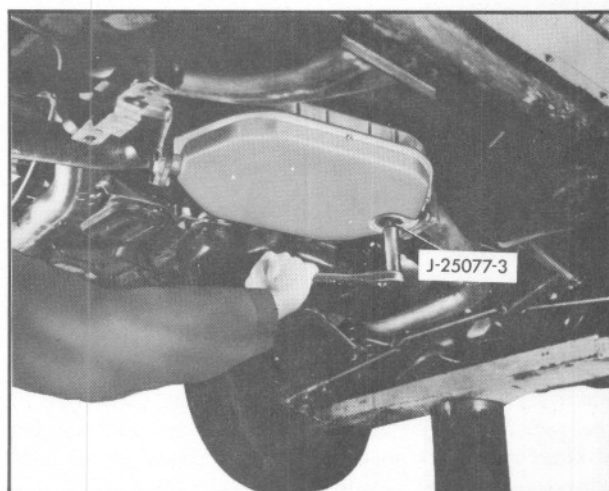

Fig. 8-6 Removing Converter Fill Plug
3. Remove converter fill plug with 3/4" hex wrench or Tool No. J-25077-3, Fig. 8-6.